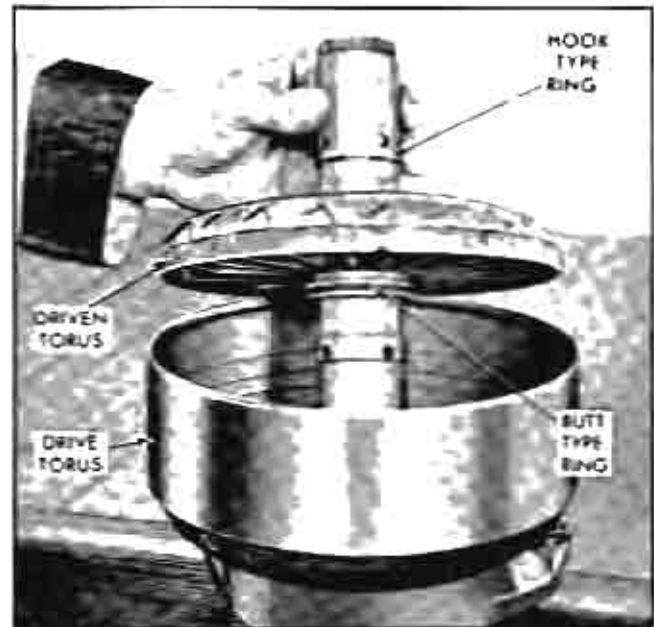

Fig. 122 Installing Driven Torus into Drive Torus
3. With oil rings in place on driven torus shaft, install driven torus into drive torus (Fig. 122).